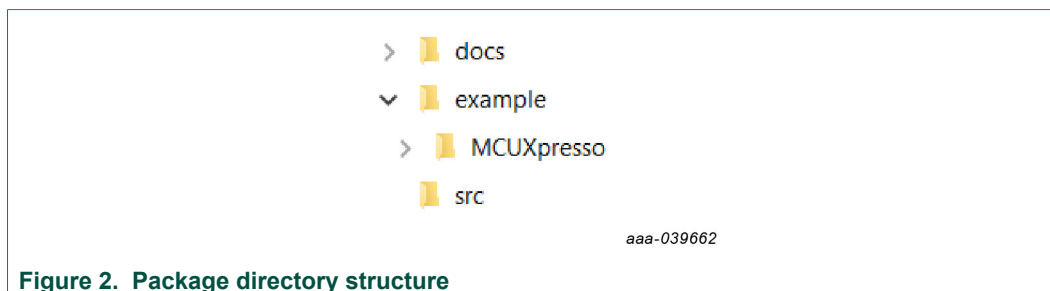

Figure 2. Package directory structure
3. The unzipped package directory structure is shown in Figure 2.